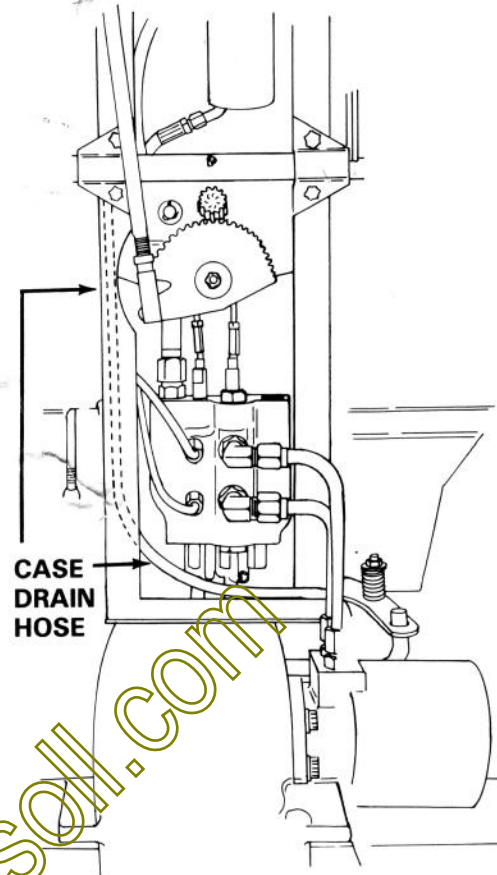
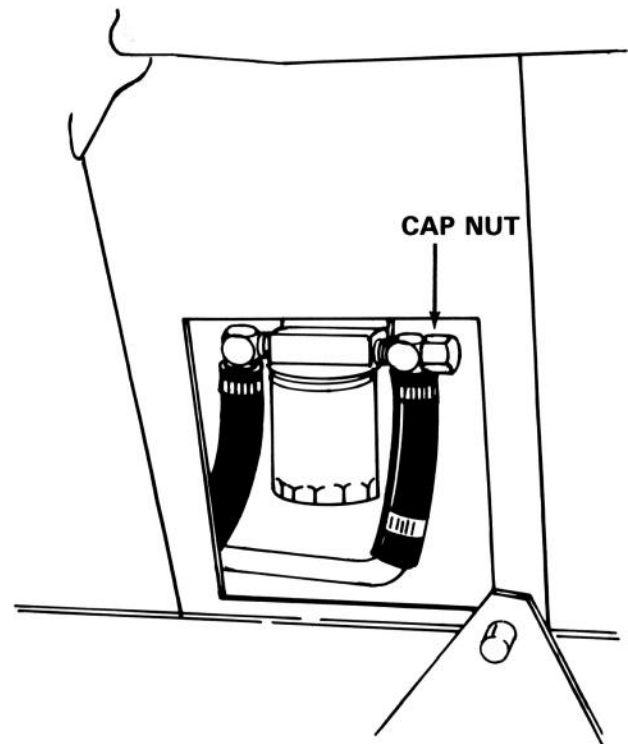

FIGURE 4
FIGURE 5
1. Route 90° hose fitting up to cap nut fitting on hydraulic oil filter head see figure 5. Center section of hose will lay up in right side frame rail. See figure 4. Rear section of hose will cross over behind travel valve and connect to adaptor fitting (21) at rear seat support. Tighten adaptor fitting (21) to hose (22).
3. Install adaptor fitting (21) through hole in rear seat support and install male quick coupler (19). DO NOT tighten at this time, fitting must be allowed to swivel.
4. Remove cap nut from fitting at hydraulic oil filter head. See figure 5 and install 90° case drain hose fitting. Position hose so it does not contact moving parts and tighten.
5. Tighten male quick coupler (19) at rear adaptor fitting (21) of case drain hose.